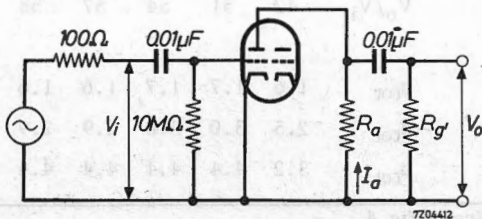

Fig. 2
A.F. amplifier - circuit fig.2.
A.F. amplifier - circuit fig.2. (continued)